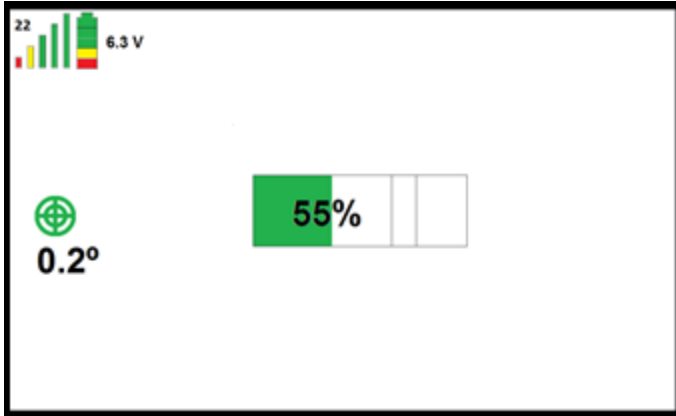

Figure: 51
- The transmission frequency is shown at the top left. See *figure 51*; here it is set to 22.
- The signal strength is indicated by 5 vertical bars. If the strength is good, they are all shown, as in *figure 51*. As the signal weakens, the green bars disappear first, then the yellow and red ones.
- The battery state of charge is shown in the battery symbol in the top-left corner of the screen. When the battery is fully charged, 3 green blocks, 1 yellow and 1 red are shown, as in *figure 51*. As the battery discharges, the blocks go out, one at a time.
- The voltage is shown in volts. In *figure 51* this is 6.3 V.
- The degree of levelling of the machine is also shown. This is indicated by the green circles in the middle. In *figure 51* the crane is 0.2° out of level.
- The crane is loaded at 55% in *figure 51*.